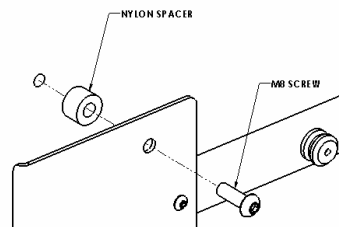
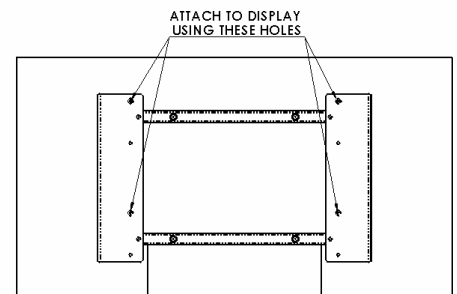

Figure 6
Figure 7
3. Place Nylon spacers over mounting holes on back of screen. Attach mounting brackets to display using the M8 screws (see Figure 6 & Figure 7).